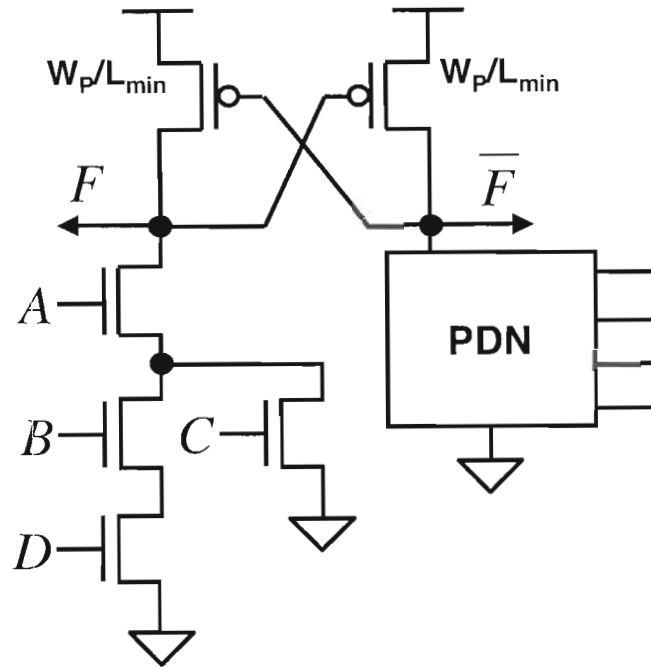

Figure 1: DCVSL gate. Transistor sizes are labeled in the figure.
**Problem 1.1 (4 points) Pulldown Network Design.** Design the pulldown network for the complementary side of the DCVSL gate shown in Figure 1. Assume that the complements of the four inputs ( $\bar{A}$ ,  $\bar{B}$ ,  $\bar{C}$ , and  $\bar{D}$ ) are available in addition to the true version of the inputs. Be sure to label all inputs clearly.